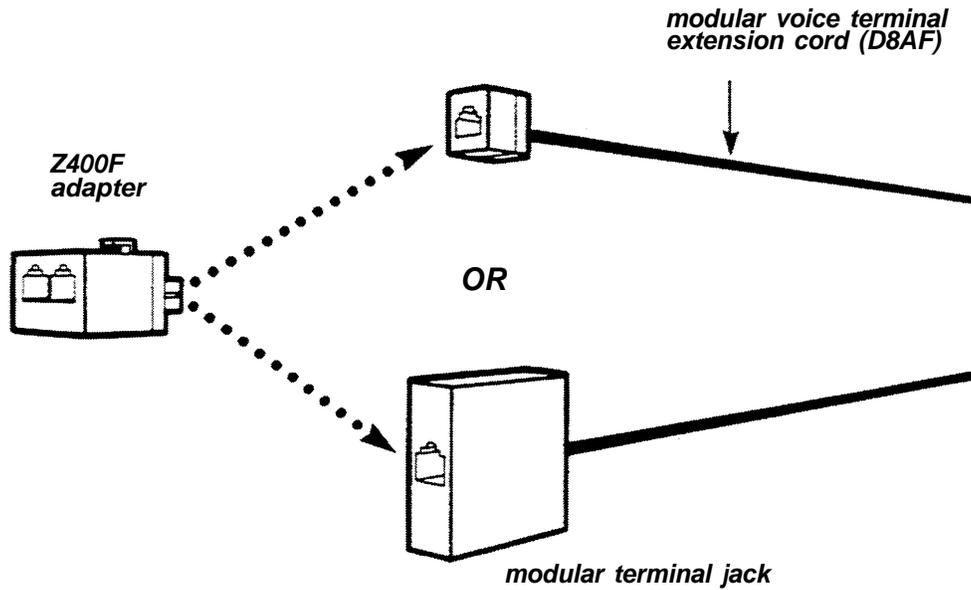

Figure 9.
3. Plug the Z400F adapter into the building wiring connection (see Figure 9). This connection may be a modular terminal jack or a modular voice terminal extension cord (marked D8AF on its jack).